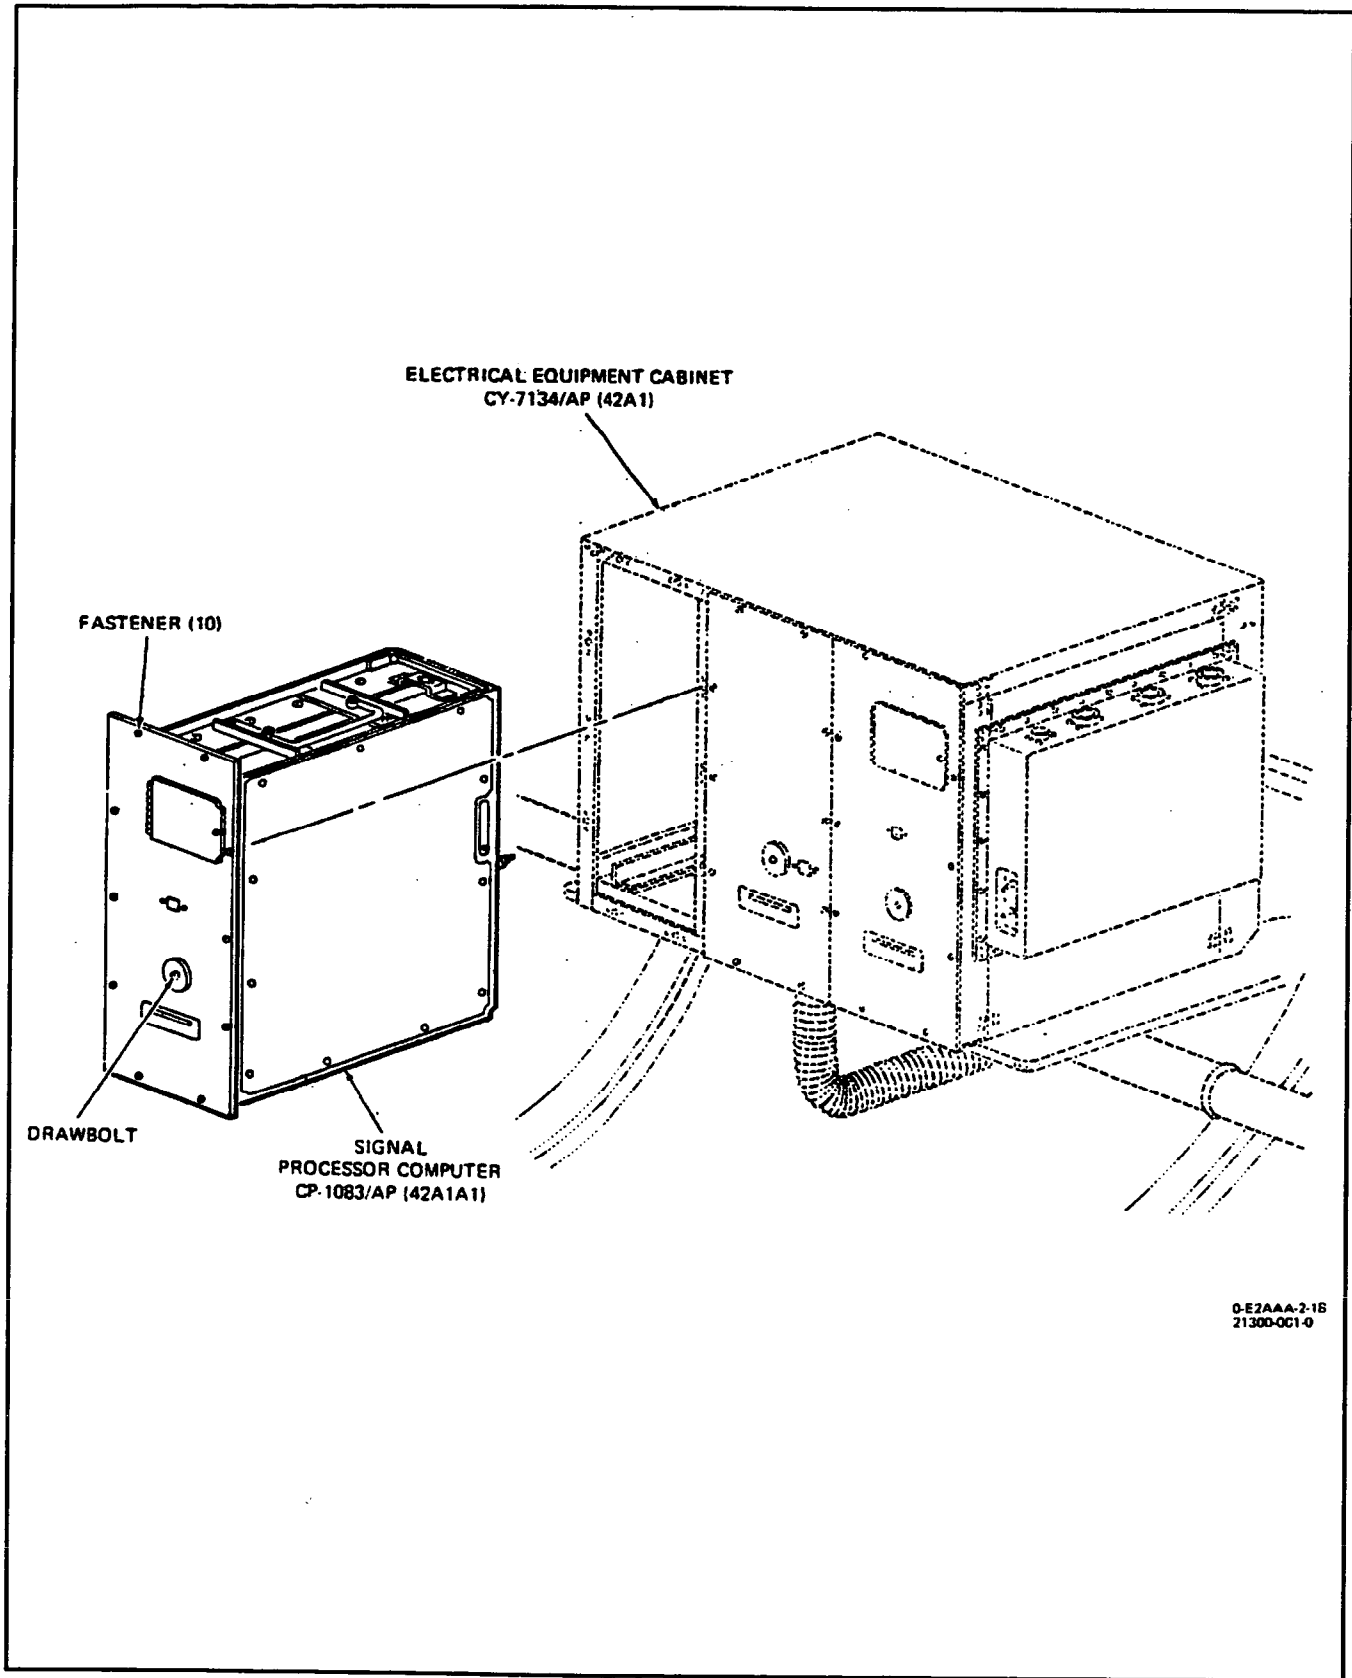

Figure 1. Removal and Installation of Signal Processor Computer CP-1083/AP
3. REMOVAL. (See figure 1.)
4. **INSTALLATION.** (See figure 1.)